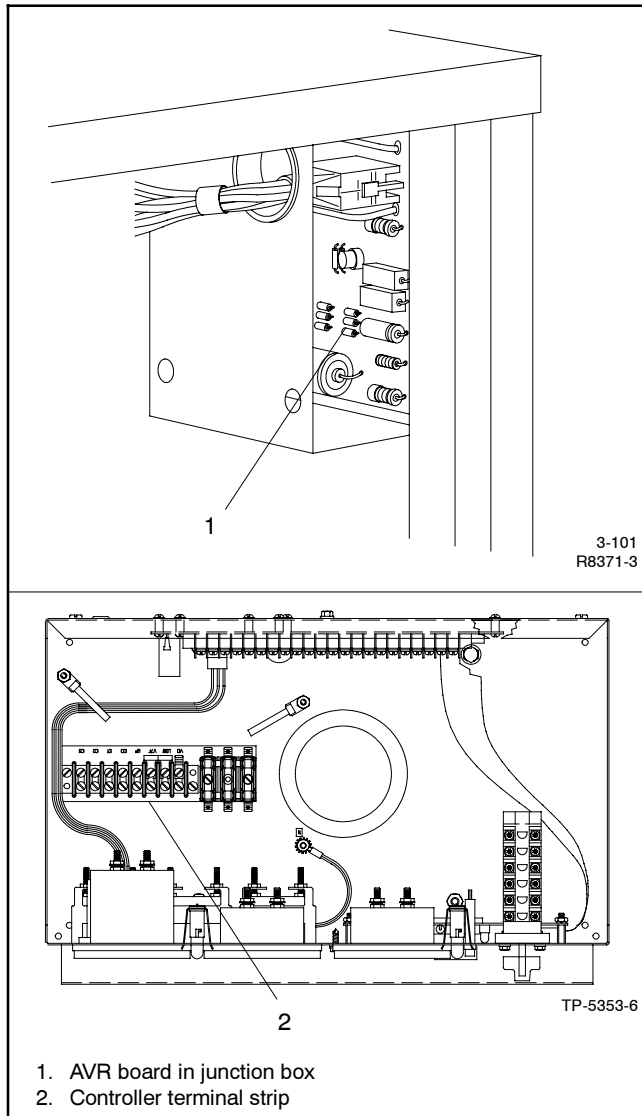

Figure 3-12 AVR and Connections
1. Disconnect the wiring harness connector from the voltage regulator and check for continuity between the voltage sensing leads V7 and V8 (pins 4 and 10). See Figure 3-12. If this circuit is open, repair or replace. An open circuit will normally result in a high voltage or overvoltage condition. Check the 15-amp fuse.